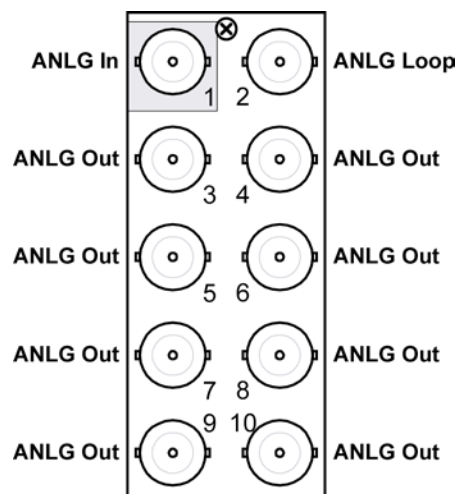

Figure 5. Cable Connections for the R1L-8705 and R2L-8705 Rear Modules
- **R1L-8705** Full Rear Module — Each card provides eight outputs and one looping output. If the input is looped on the rear module to another device, **JP1** must be set to **LOOP**. If looping is not used, either set **JP1** to **TERM**, or terminate the input externally at BNC 2. Refer to **Figure 5** for cable connections.
- **R2L-8705 Full Rear Module with Looping** — Each card occupies two slots and provides eight outputs plus one looping output. If the input is looped on the rear module to another device, **JP1** must be set to **LOOP**. If looping is not used, either set **JP1** to **TERM**, or terminate the input externally at BNC2. Refer to **Figure 5**.